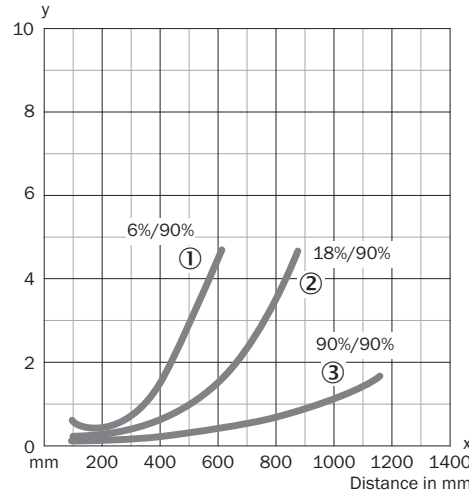
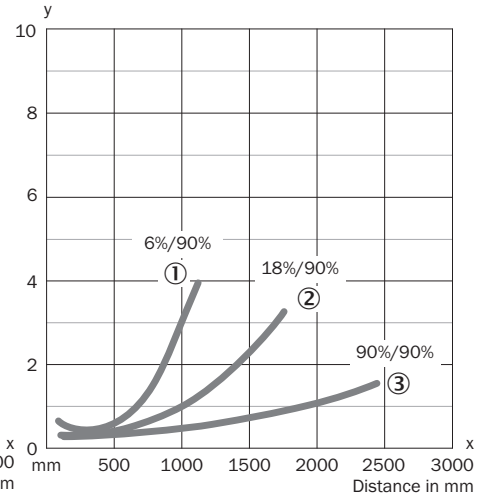

Figure 6: WT24-2xx4x, -2xx5x
Figure 7: WT24-2xx1x, -2xx2x
Check the application conditions: Adjust the sensing range and distance to the object or background and the remission capability of the object according to the corresponding diagram see [figure 6 and figure 7] (x = sensing range, y = transition range between the set sensing range and suppression of the background as a % of the sensing range (object remission/background remission)). Remission: 6% = black ①, 18% = gray ②, 90% = white ③ (referring to standard white as per DIN 5033). We recommend making the adjustments using an object with a low remission.
The minimum distance (= y) for background suppression can be determined from diagram [figure 6 ①] as follows: